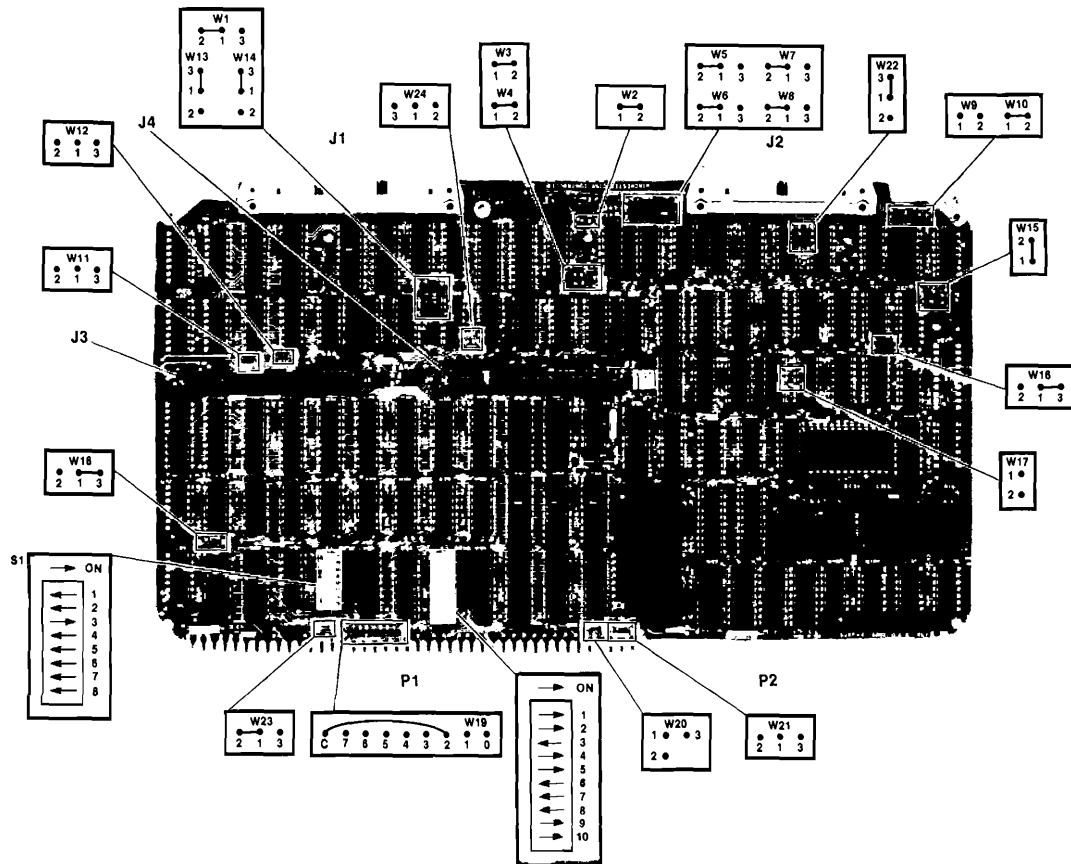
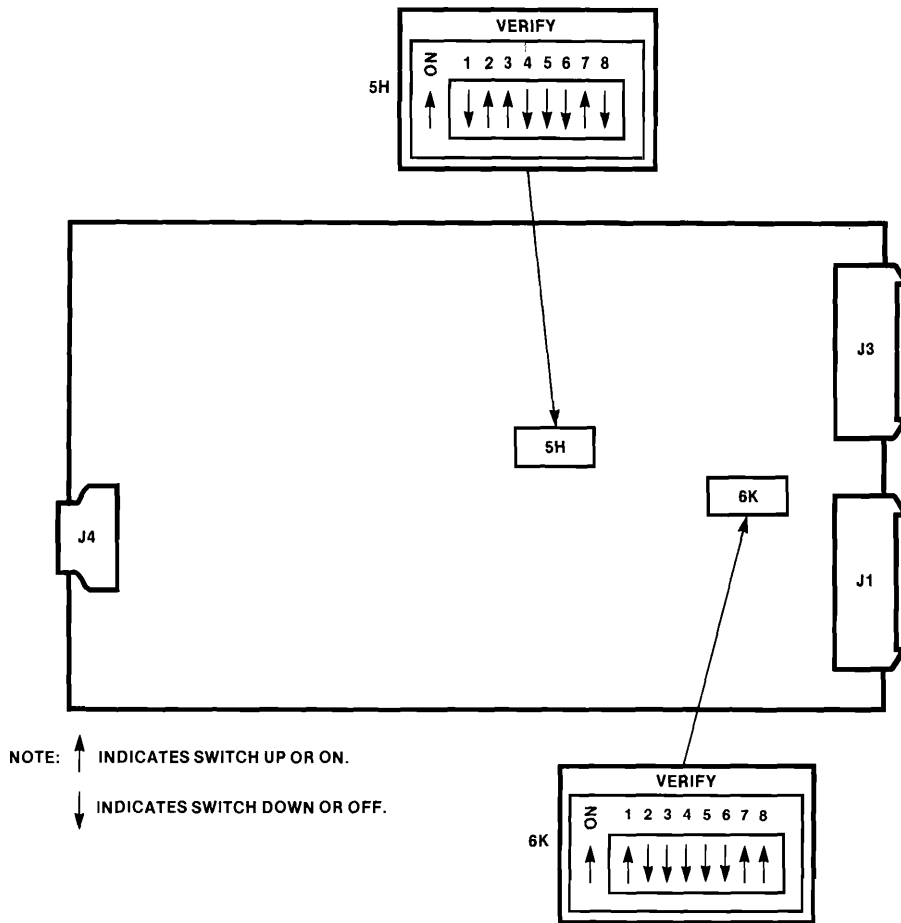

Figure 2-1. Controller Jumper/Switch Configuration
Figure 2-2. Drive Switch Settings
This chapter will provide the Customer Engineer with information and data relating to the jumper configurations on the iMDX 704 disk controller and the switch settings on the Winchester drive read/write digital control board and iMDX 704 disk controller. The disk controller and the read/write digital control board can be configured to perform in several operating environments. The switch settings on the two boards and the relocatable jumpers on the disk controller are specific for use on the Series II and Series III development systems. It is important to verify these switches and jumpers are set correctly to ensure reliable results from the diagnostics run on the C.E. test diskette. Table 2-1, and figures 2-1 and 2-2 provide the correct settings for these two printed boards. Figure 2-2 provides a wiring diagram for the Winchester peripheral chassis.
3. Verify the position of all jumper configurations (refer to figure 2-1 and table 2-1).
4. Verify that the address switches are set correctly (see figure 2-1). The wake-up address for the controller is 5H (S2-8 and S2-10 'on'). All other switches are off.
<p>Drive Compatibility: Determines specific disk drive. Set as shown in figure 2-1 for Winchester peripheral subsystem.</p>	<p>W1, W2, W5, W6-10, W13-17, W22</p>
<p>Interrupt Priority Level: Selects controller's internal interrupt request signal. Left open as shown in figure 2-1.</p>	<p>W19</p>
Mini-dip type switches are provided on the read/write digital control board to select the drive address, write protect functions and number of sectors. The actual number of sectors is the sum of the bits selected. The switch settings on 6K select drive address 1 and enable the Transmit Write Clock and the Write Protect. The eight switches on 5H represent a binary bit position from 1 to 128, thus, setting switches 2, 3, and 7 will select 70 sectors per track. Refer to figure 2-2 for switch locations on the board and their respective settings.